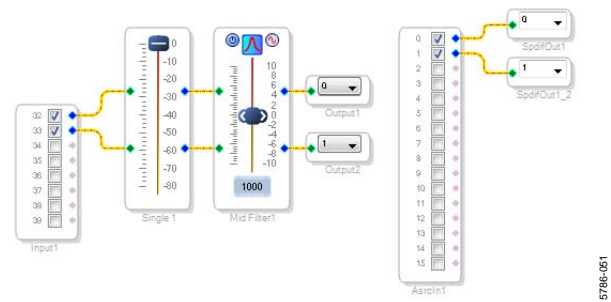

Figure 51. Signal Flow Including S/PDIF Input (via the ASRC) and S/PDIF Output
9. Connect the signals from the **Asrc Input** block to the **Spdif Output** blocks so that the resulting signal flow resembles Figure 51.